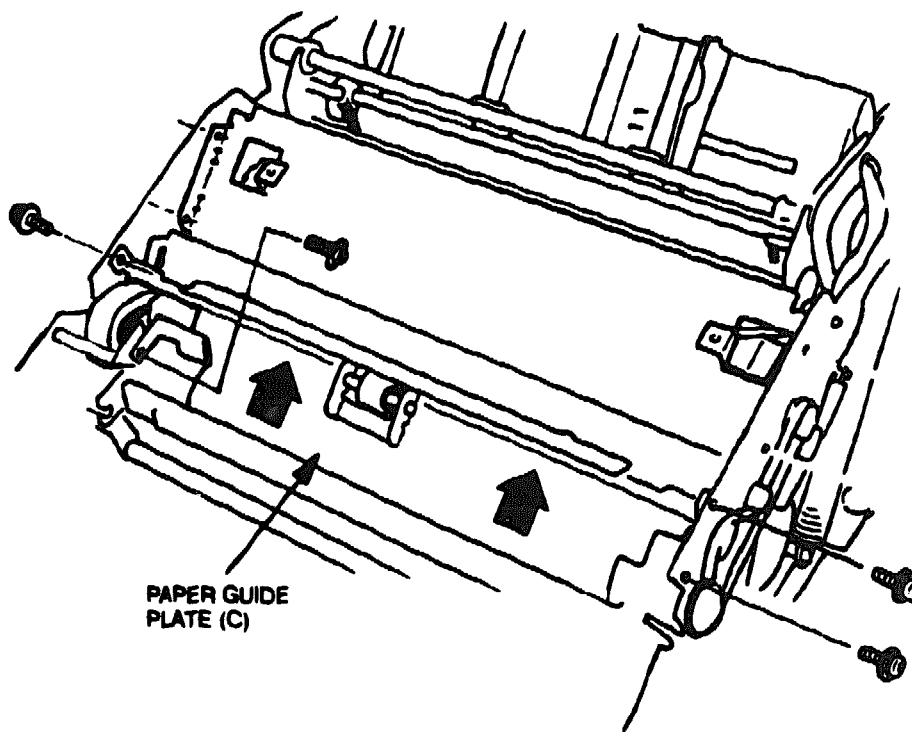

Figure 4-22 Paper Guide Plate (C) Assembly
2. Remove the four screws that secure the paper guide plate (C) assembly (see Figure 4-22) and remove the assembly.